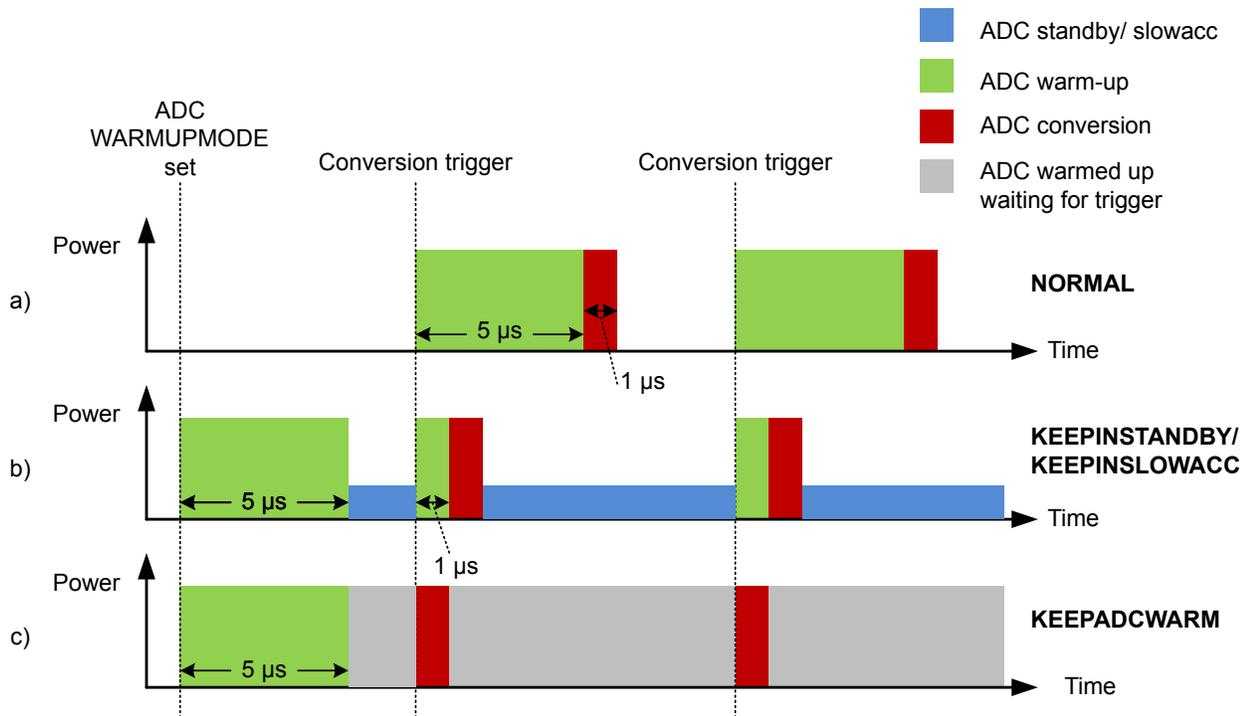

Figure 26.4. ADC Analog Power Consumption With Different WARMUPMODE Settings
Normally, the ADC will be warmed up only when samples are requested and is shut off when there are no more samples waiting. However, if lower latency is needed, configuring the WARMUPMODE field in ADCn_CTRL allows the ADC and/or reference to stay warm between samples, reducing the warm-up time or eliminating it altogether. Figure 26.4 ADC Analog Power Consumption With Different WARMUPMODE Settings on page 873 shows the effects on analog power consumption in scenarios using different WARMUPMODE settings.
- **NORMAL:** This is the lowest power option for general-purpose use and low sampling rates (below 35 ksps). The ADC and references are shut off when there are no samples waiting. The ADC does not consume any power when it is shut down. A 5 μ s warmup time will be initiated prior to every conversion. Figure a in Figure 26.4 ADC Analog Power Consumption With Different WARMUPMODE Settings on page 873 shows this mode.
- **KEEPINSTANDBY:** This mode is suitable for infrequent sampling of lower impedance inputs, and is the lowest power option for sampling rates between about 35 and 125 ksps. It may also be useful for lower sampling rates where latency is important. The reference selected for scan mode is kept warm, but the ADC is powered down. The ADC will initiate a 1 μ s warmup period before a conversion begins. Because the reference is kept warm, the ADC will consume a small amount of standby current when it is not converting. Figure b in Figure 26.4 ADC Analog Power Consumption With Different WARMUPMODE Settings on page 873 shows this mode.
- **KEEPADCWARM:** This mode provides the lowest latency and allows for maximum sampling rates. The ADC and reference circuitry remain powered on even when conversions are not in progress. Figure c in Figure 26.4 ADC Analog Power Consumption With Different WARMUPMODE Settings on page 873 shows this mode. This mode consumes the most power, but as soon as a trigger event occurs, the acquisition and conversion begin with no warm-up time. Note that if KEEPADCWARM mode is set and HFXO is selected as the ADC clock source, the HFXO will remain on in EM2.